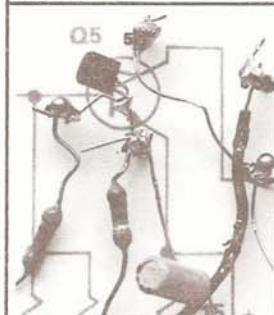

FIG. 2 INCORRECT
5. LEAD DRESS - Component lead dress and placement is very important. All wiring and parts placement should be made as neatly as possible before soldering in place (See Fig. 2 and 3 for component placement).